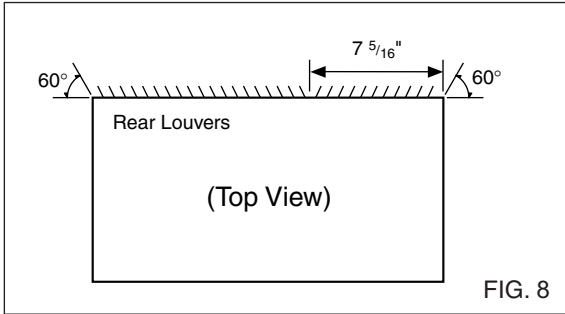

FIG. 8
- 1 Redirect the louvers at the back of the wall sleeve to 60° angle as shown in the FIG 8. The use of pliers is recommended.